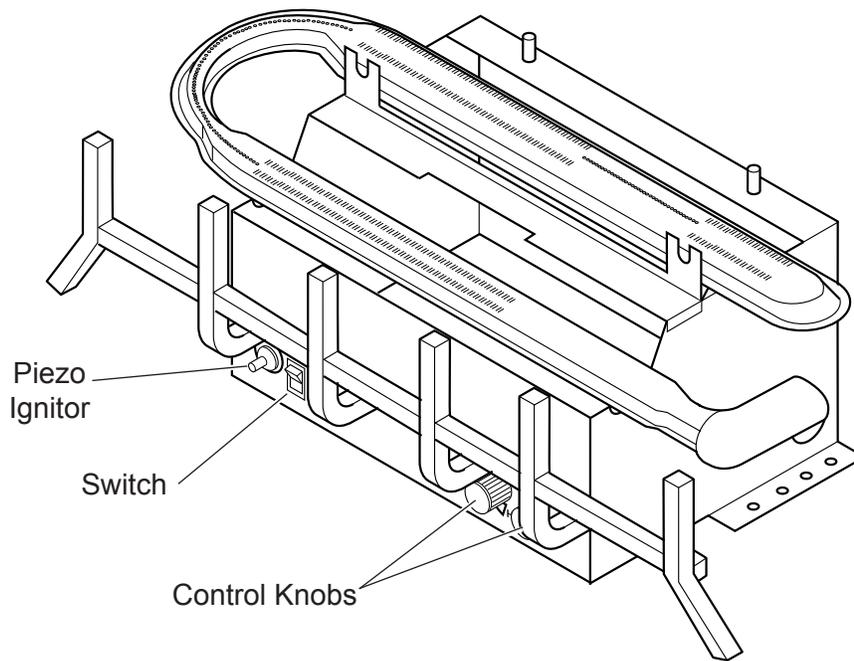

Figure 24 - Location of Piezo Ignitor, Control Knobs and Switch on Millivolt Unit
4. See *Figure 24, page 24* for the location of the piezo ignitor and control knob. Push in gas control knob slightly and turn control knob counterclockwise  to the OFF position.